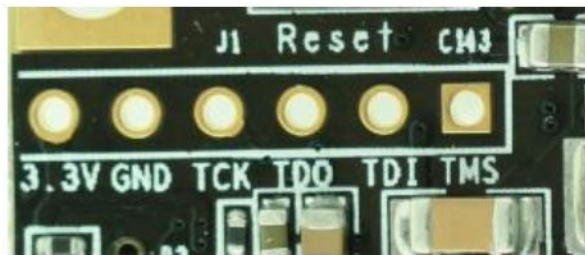

Figure 8-2 JTAG Interface on Core Board
- The JTAG interface J1 on AC7200 FPGA core board uses a 6-pin 2.54mm pitch single-row test hole. If you need to use the JTAG connection to debug on the core board, you need to solder a 6-pin single-row pin header. Figure 8-2 shows the JTAG interface J1 on the AC7200 FPGA core board.